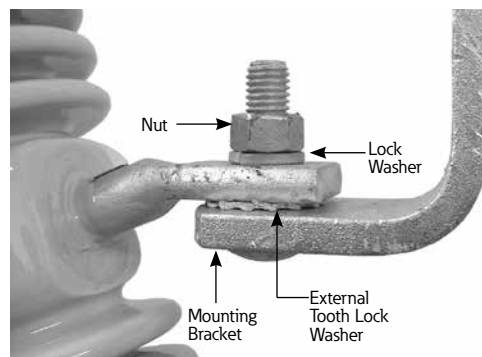

Figure 5. Cutout mounting.
- Position the lock washers. See Figure 5.